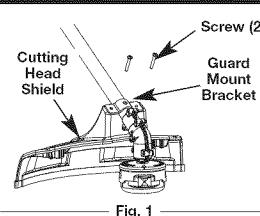

Fig. 1
- Place the cutting head shield onto the guard mount bracket, making sure to align the holes on the shield with the ones in the guard mount bracket. (Fig. 1)